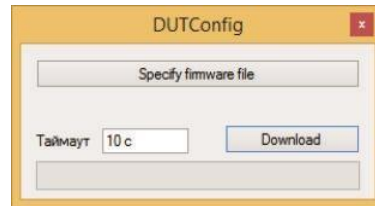

Figure 29 - Open the firmware file
2. In the window that opened (Figure 29), press the [Open firmware file].